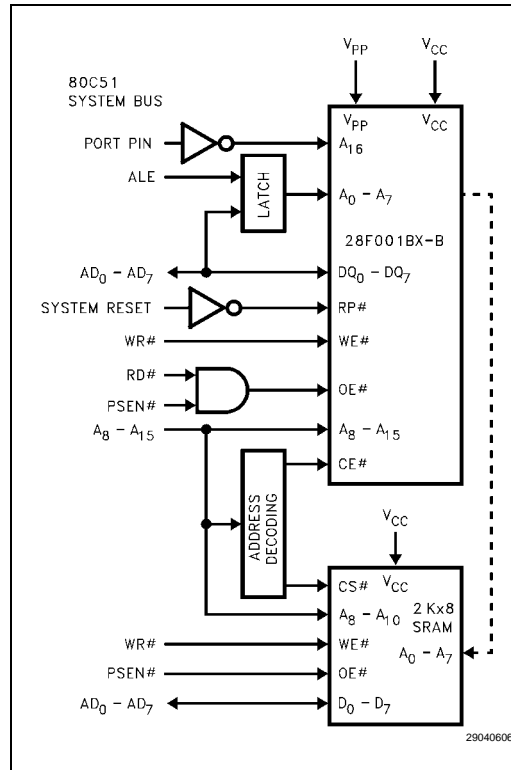

Figure 5. 28F001BX-B in a 80C51 System
-004	<p>Removed Preliminary classification.  Latched address A16 in Figure 5.  Updated Boot Block Program and Erase section: "If boot block program or erase is attempted while RP# is at VIH, either the Program Status or Erase Status bit will be set to '1,' reflective of the operation being attempted and indicating boot block lock."</p> <p>Updated Figure 11, 28F001BX Erase Suspend/Resume Flowchart.  Added DC Characteristics typical current values.  Combined VPP Standby current and VPP Read current into one VPP Standby current spec with two test conditions (DC Characteristics table).  Added maximum program/erase times to Erase and Programming Performance table.  Added Figures 13–16.  Added Extended Temperature proliferations.</p>